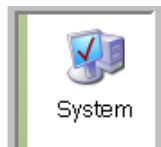

FIG. 211
2. Double click on the System Icon (FIG. 211).